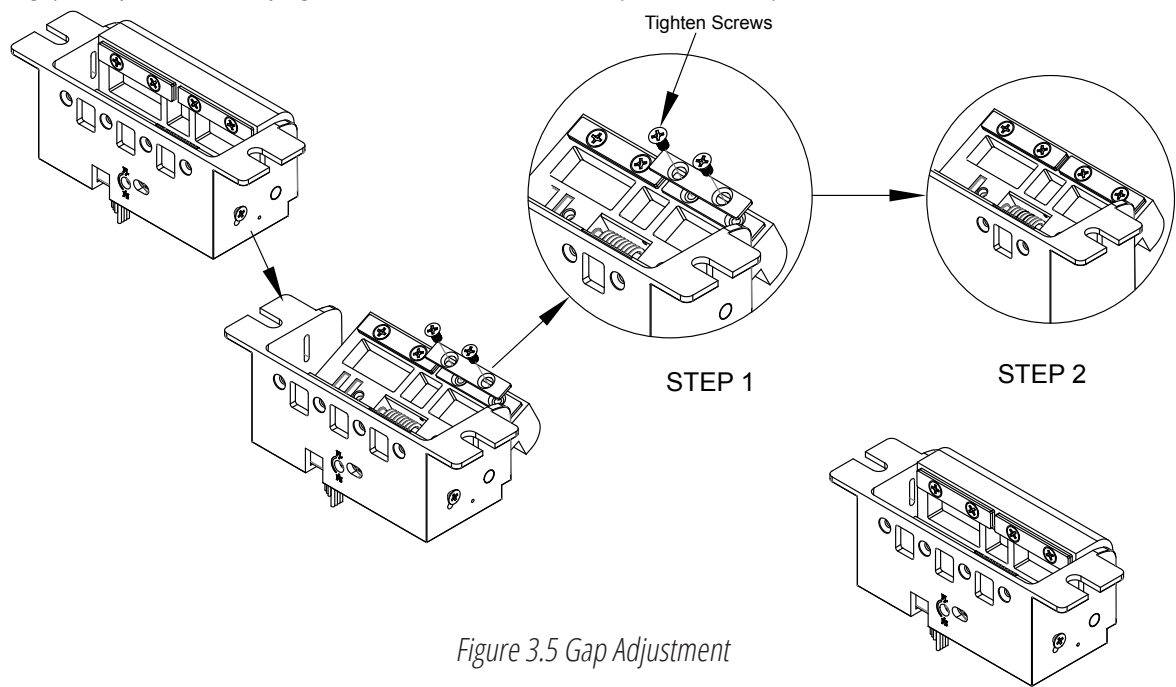

Figure 3.5 Gap Adjustment
1. First loosen and remove the two set screws that secure the keeper shims. (Figure 3.5)